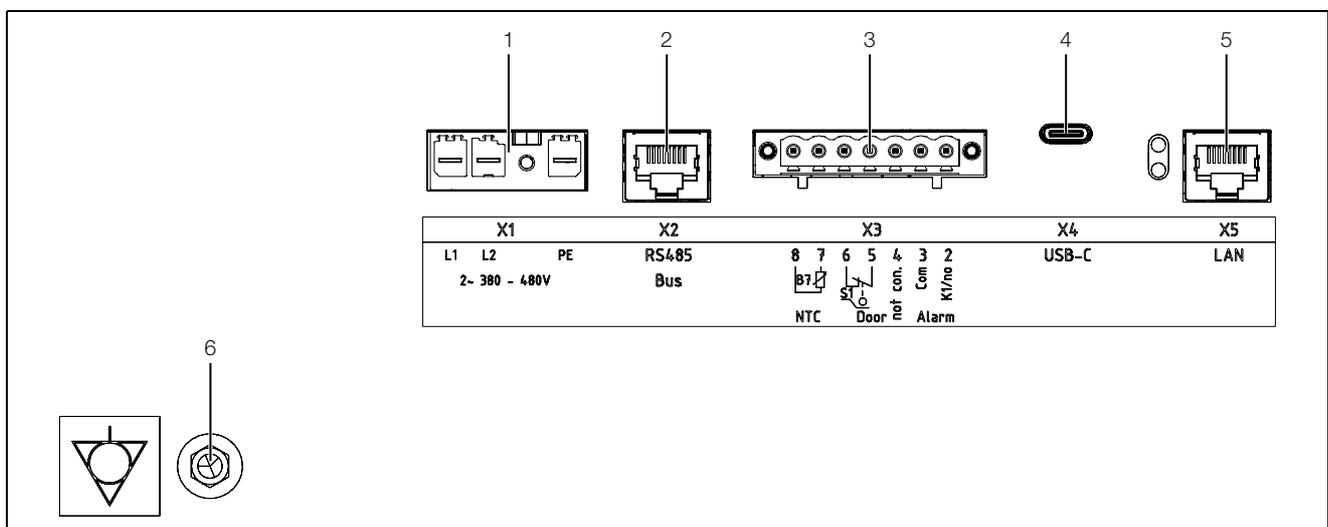

Fig. 43: Mains connection and interfaces
tion connection point. The connection point is labelled with the required switch symbol (fig. 43, item 6).
- The cable shield can be contacted at the potential equalisation point (fig. 43).